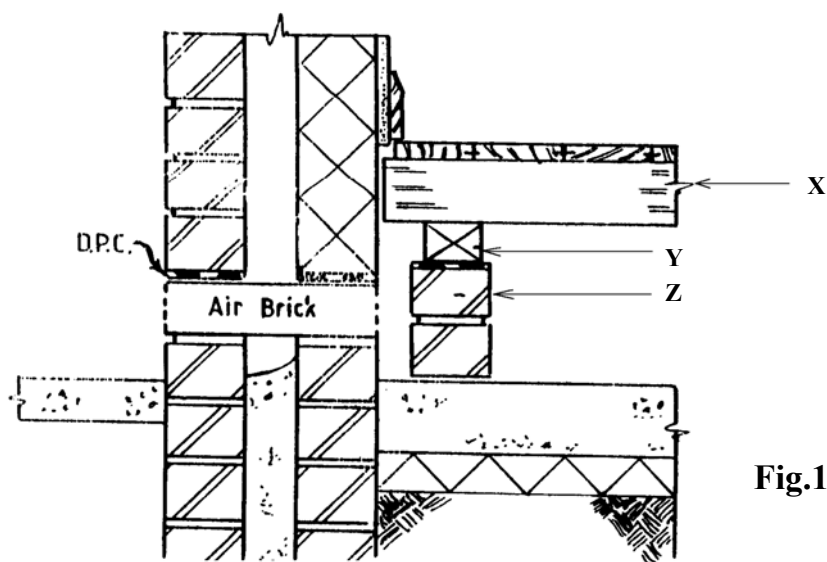

Fig.11
36. Name the components indicated at X, Y, and Z on the vertical section through part of a hollow timber ground floor shown in Fig. 11.